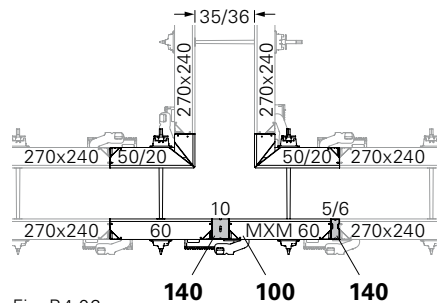

Fig. B4.06
- Wall thickness 35/36: Fig. B4.06